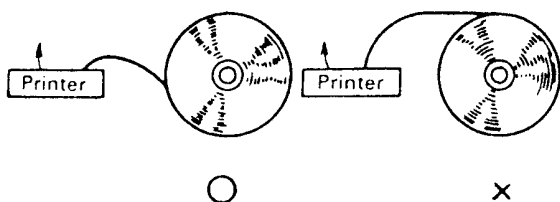

Fig. 3-4. Paper Setting Direction
- (1) Be sure to load the roll paper in the orientation shown in Fig. 3-4.